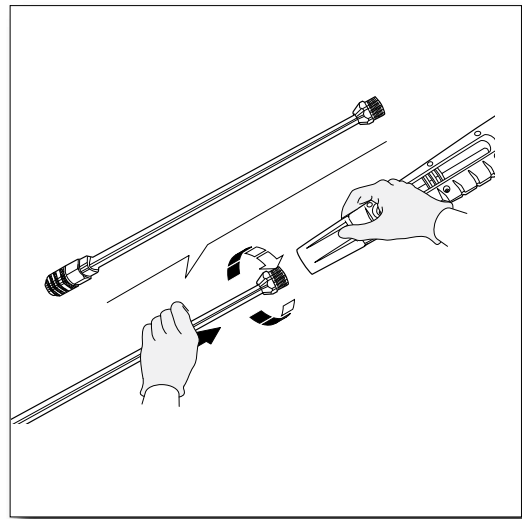

Fig. 9
- While the spray gun is in the locked position, insert the lance into the end of the spray gun by inserting turning clockwise until fully in place. To remove turn counter clockwise (**Fig. 9**).